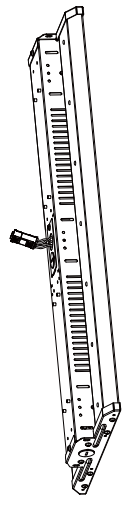
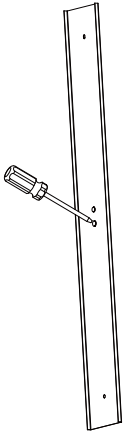

Figure 12
Figure 13
Step1. Knock off the knockout hole on the back of the fixture, take out the wires from the knockout hole (Figure. 12), open the front cover of the fixture, and knock out the two knockout holes on the cover (Figure. 13);